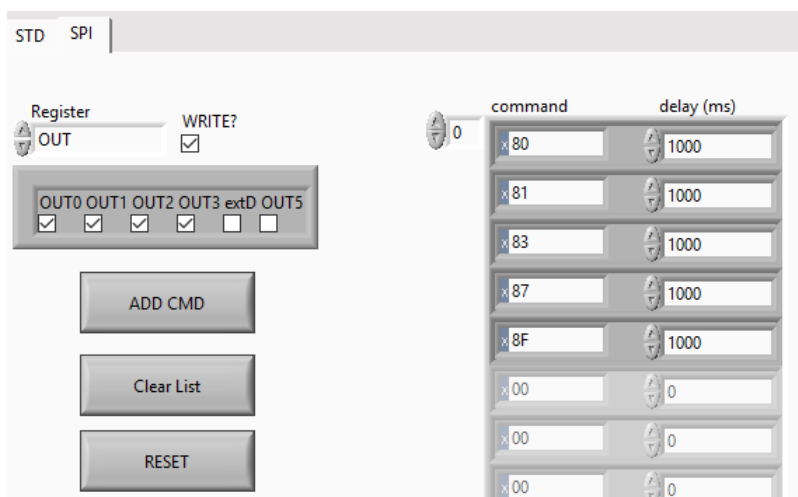

Figure 26 - repeat until all OUTS (OUT0-OUT3) are selected
- Repeat the last three steps until you reach OUT3 (See Figure 26)